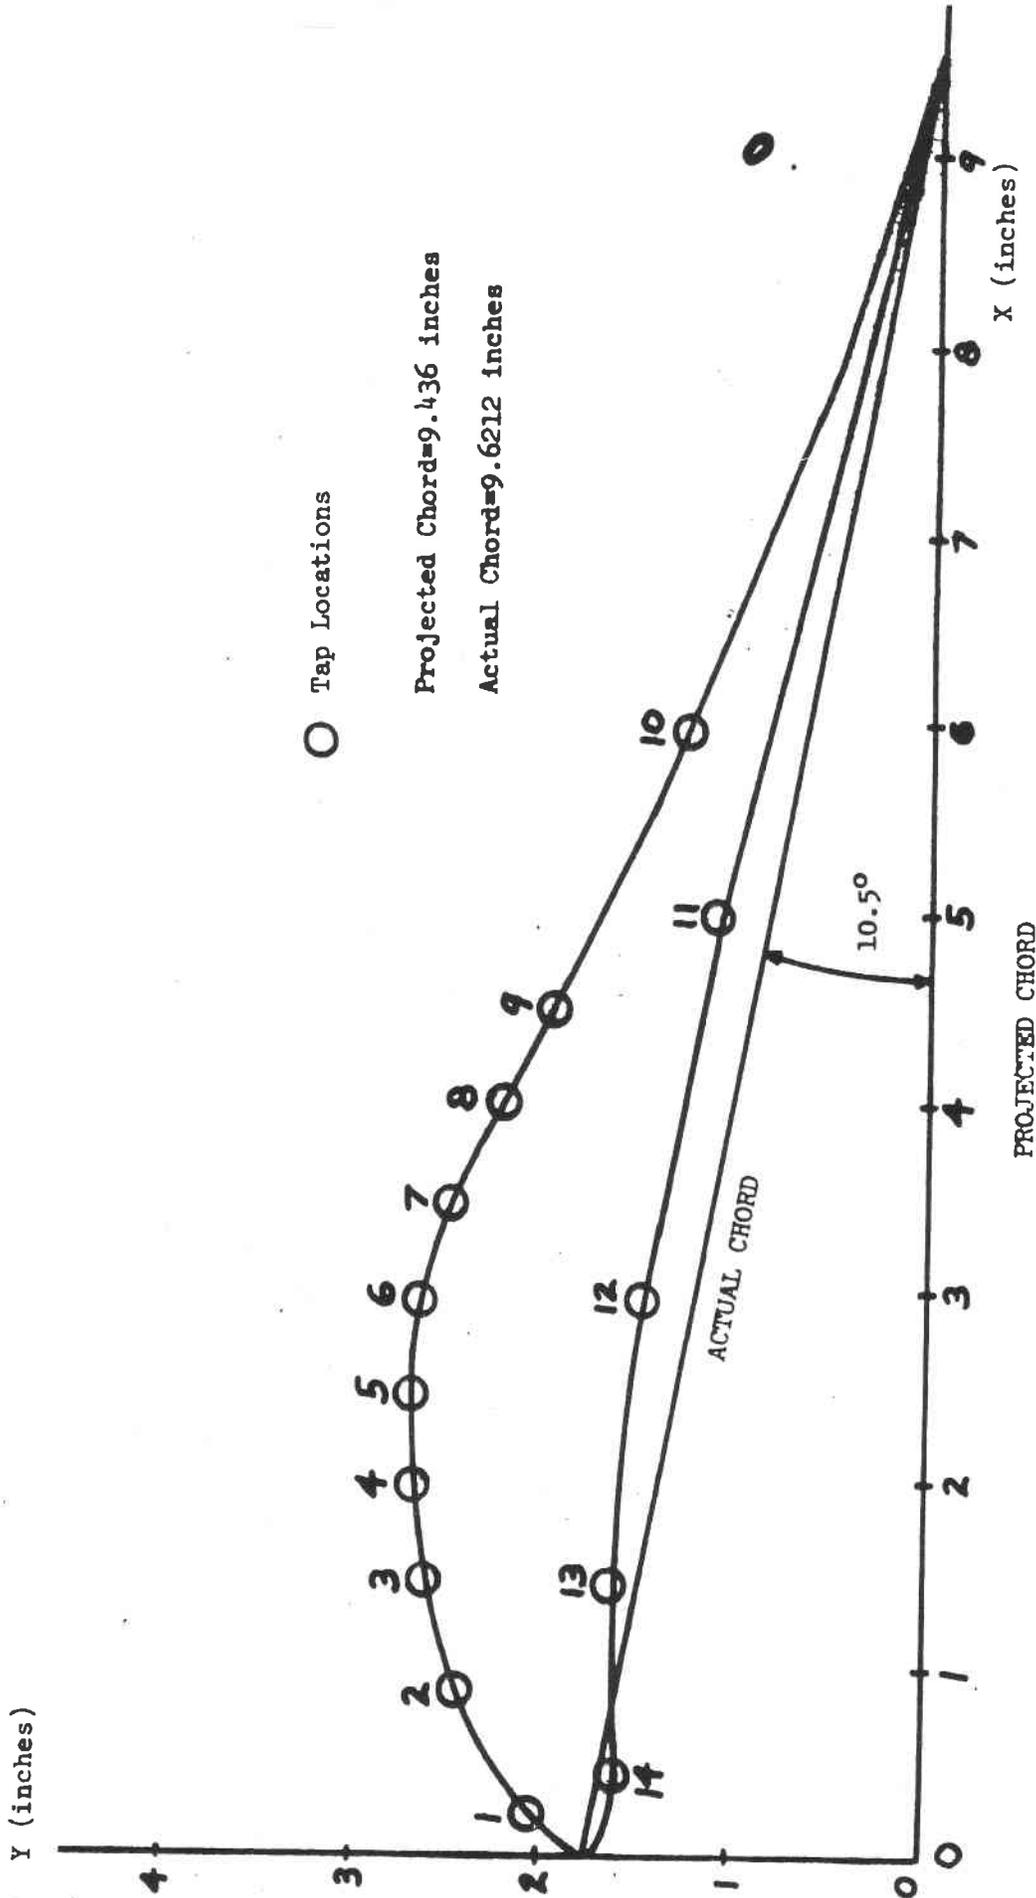

FIGURE 2. Profile of Liebeck Airfoil #33 and Tap Locations (Reproduced from Figure 5 in Reference 4)
9.436 inches and a Coordinate System as that in Figure 2.